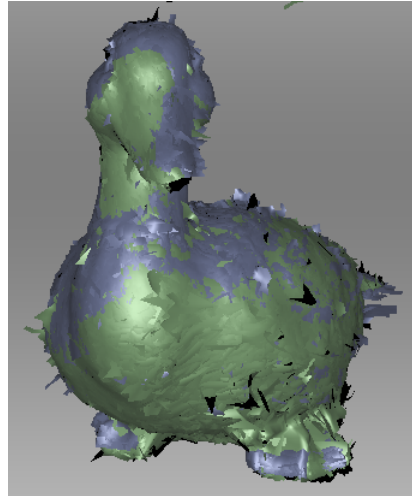

Figure 123: "Drag" alignment result
3. To confirm the alignment, release the mouse button(s) and the `Shift` key, then click *Apply*. Note carefully that any scans you are registering won't automatically move to the registered set  (see Figure 123). You can do so manually as the Changing Object Status describes.